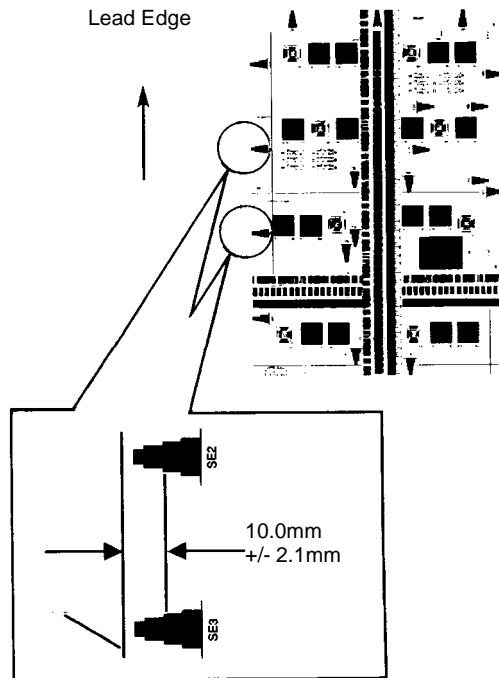

Figure 1 Checking IIT Side Edge Registration
3. On the 2nd copy, check that the distance from the lead edge to the top of Step 3 on the SE2 and SE3 scales is 10.0mm +/- 1.6mm (Figure 1).